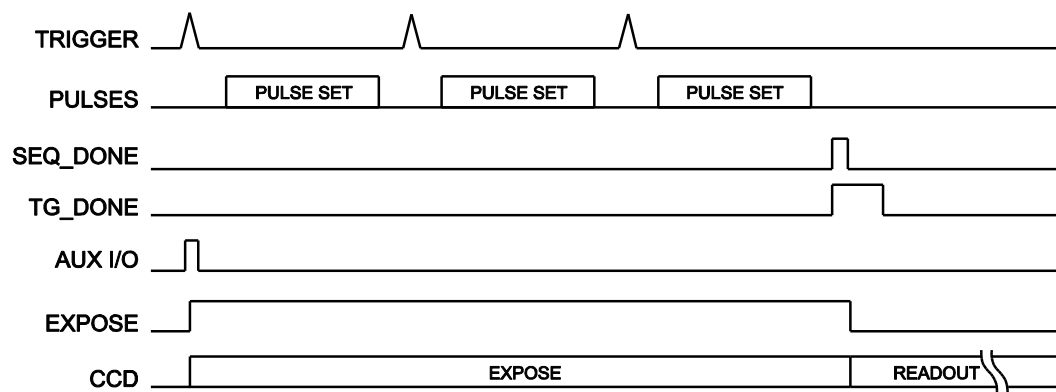

Figure 83. Timing Diagram: Sequence with 3 Repetitions and Trigger per Pulse
**Trigger per Pulse:** Each pulse of the single sequence is initiated by its own trigger (all triggers must be from the same source and all must be either internal or external). See Figure 83.